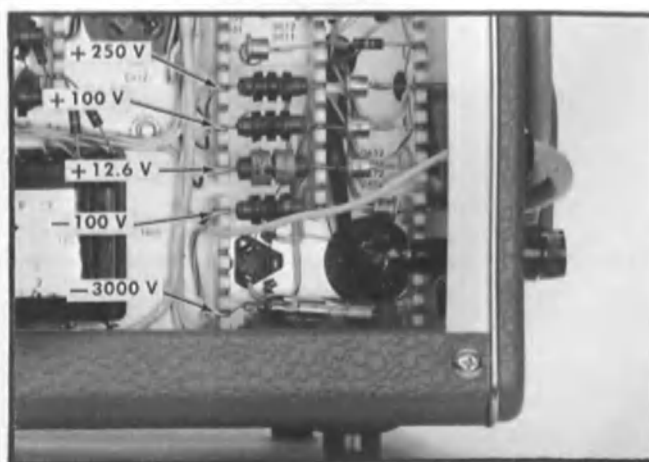

Fig. 6-4. Location of power supply test points.
- Set the DC voltmeter (item 2 of Recommended Equipment) to the appropriate scale, and connect the leads to the Type 503 chassis ground and the —100 volt test point (see Fig. 6-4 for test point locations).